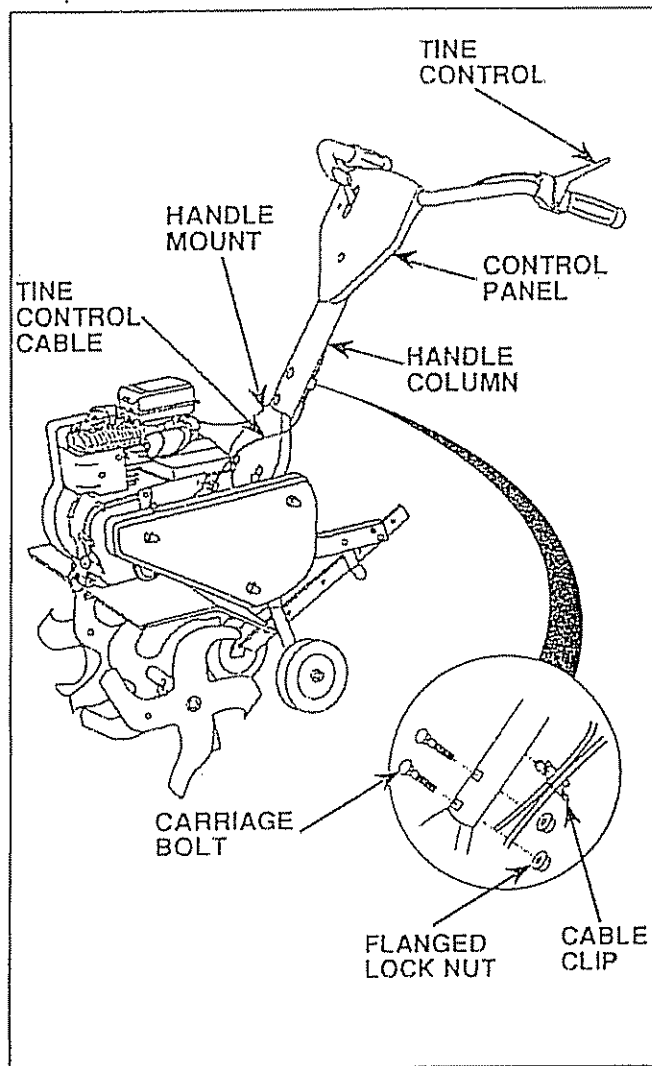

FIGURE 2
- BEING CAREFUL NOT TO KINK CABLES, slowly lift Handle Column up and slip over Handle Mount (Fig. 2).